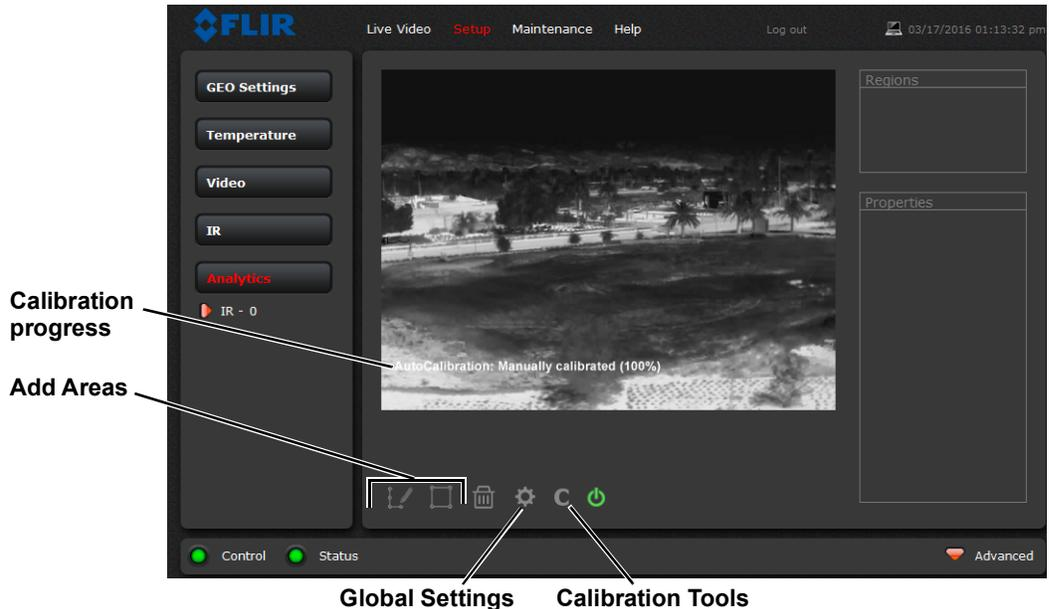

Figure 3-1: Analytics Page
Step 3 Click **Relearn**. The camera automatically calibrates the depth of the FoV based on people walking in the scene. Be sure that people are walking along the entire vertical axis of the FoV until calibration is finished. The On-Screen Display shows the progress as a percentage in the upper left corner of the video (see Figure 3-1).